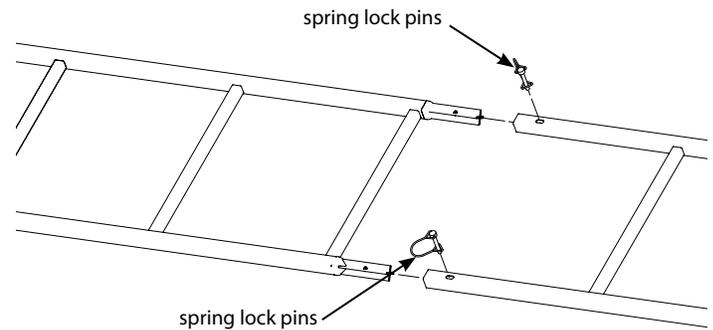
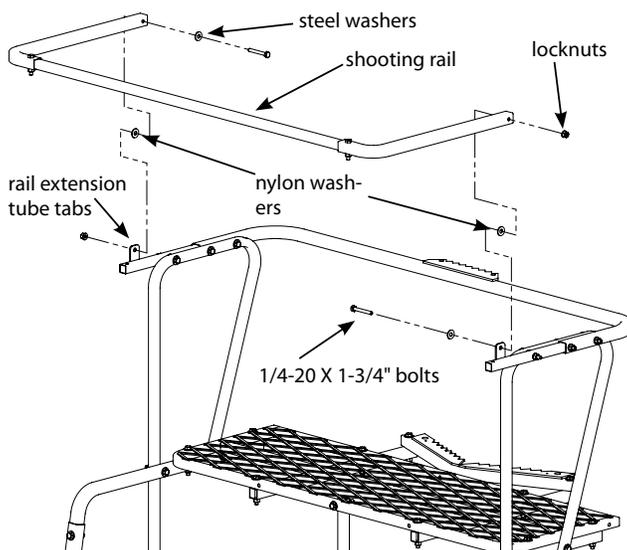

Figure 8
Figure 7
10. Attach the previously assembled shooting rail to the tabs located on the shooting rail extension tubes using (2) provided 1/4-20 x 1-3/4" bolts, locknuts, steel washers and nylon washers. **SEE FIGURE 7. You must now tighten all nut and bolt combinations completely. Be sure not to over tighten or crush tubing when tightening.**
- b. Attach the (2) provided 9" and (1) provided 36" camo foam sleeves to the side loop frames and shooting rail by wrapping around square tubing and attaching Velcro together.
13. With all sections assembled together on ground, secure all sections together using (8) provided spring lock pins. Handle of spring lock pin must be put to the outside of ladder side rails. **SEE FIGURE 8.**